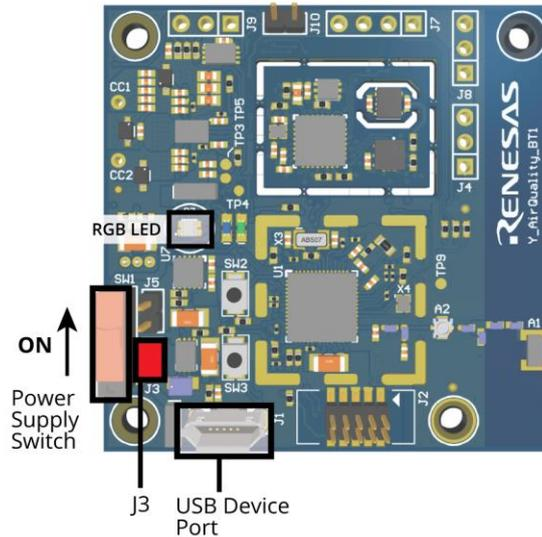

Figure 2: PCB Top View with the default jumper configuration.
3. Verify that the jumper configuration matches the “default configuration” (J3 closed, J5 open, J10 open as indicated in [1]) as shown in Figure 2
4. Move the Power Supply Switch to ON Position (Figure 2)